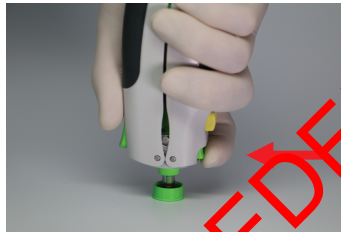

figure 12
a) Remove Syringe from the Injector by pressing the Eject button, as shown in figure 12.